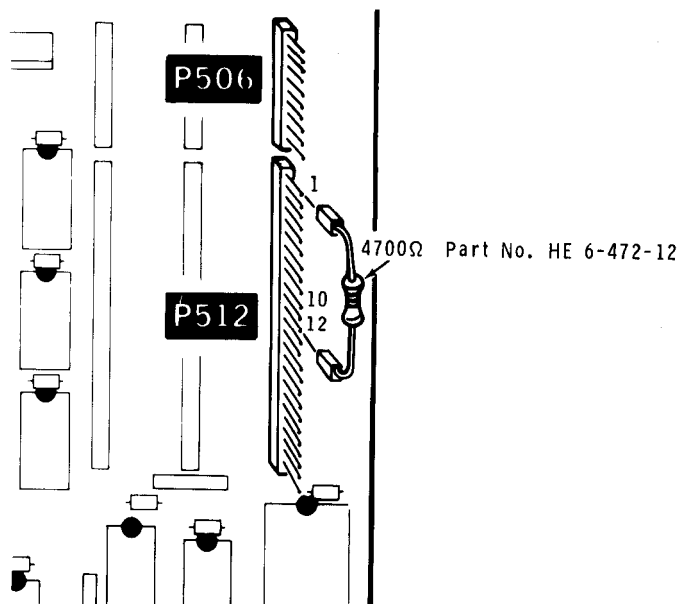

Figure 2-2
- Set switch SW501, section 4 (on the CPU logic circuit board) to 1. The Z-37 connected drives are now the primary drives and they are now numbered as shown in Figure 2-3 on Page 2-3. (NOTE: IF YOU REMOVE THE UNUSED H-88-1 FLOPPY DISK I/O CIRCUIT BOARD, YOU MUST CONNECT A 4700 OHM RESISTOR TO PLUG P512 BETWEEN PINS 1 AND 12. SEE FIGURE 2-2.)
To make the modification, use a 4700  $\Omega$ , 1/4-watt resistor (yellow-violet-red), HE 6-472-12; and slide a length of sleeving over the resistor. Solder the resistor between pins 1 and 12 of plug P2 on the foil side (not the component side) of the Z-89-47 circuit board as shown in Figure 2-2 on Page 2-2.